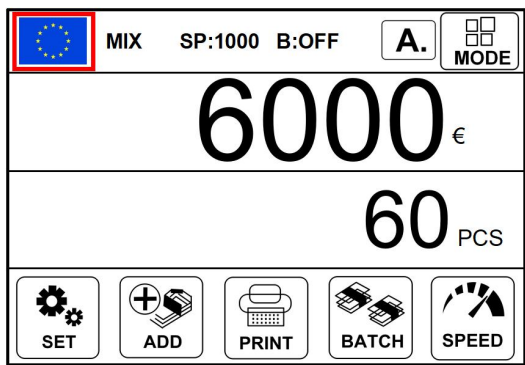

Figure 24
4) After the banknotes in the stacker are taken out, the machine will only display the total number and total amount of banknotes counted for the current time, and will not display the details of the previous US dollars, as shown in the following Figure 24.